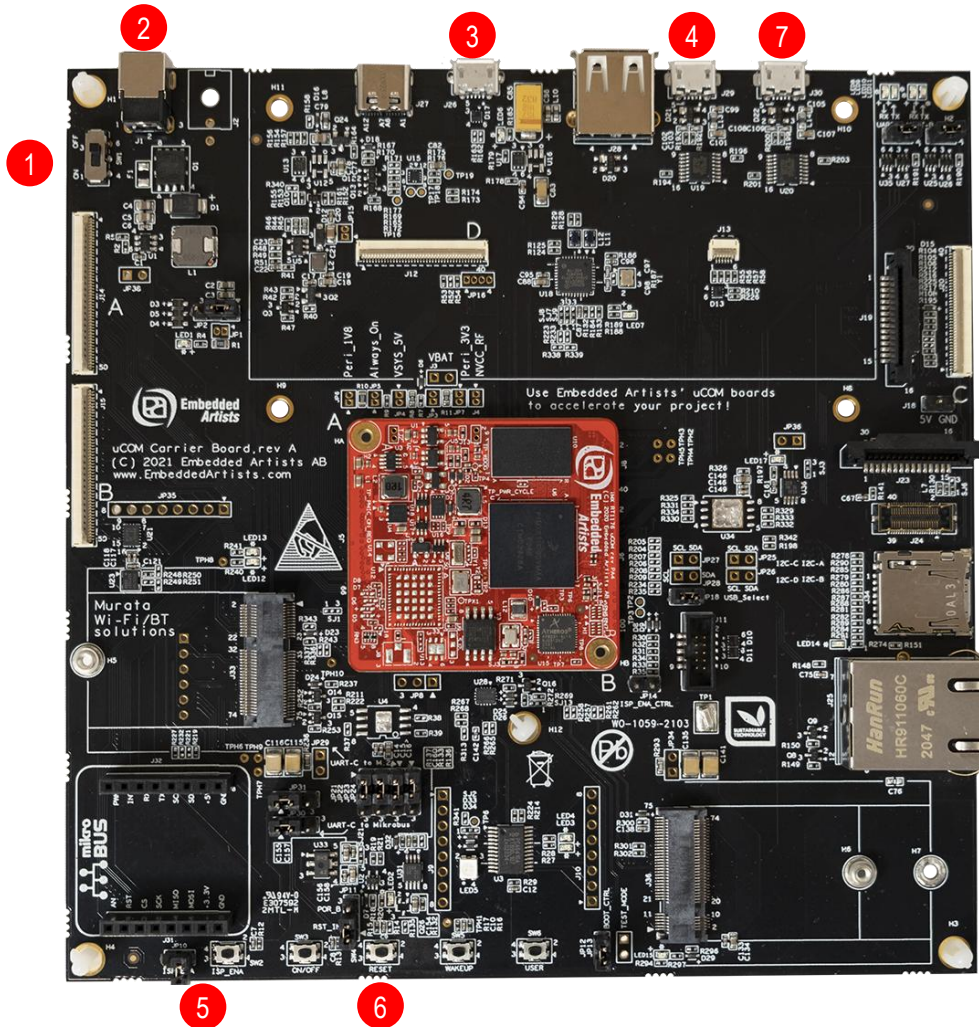

Figure 1 – iMX RT1176 Developer's Kit
- One *iMX RT1176 uCOM* board mounted on one *uCOM Carrier board*, see Figure 1 below.
Figure 1 below illustrates the top side of the *uCOM Carrier board*. Some key components, relevant to get started, have been marked in the picture.
Begin by connecting the micro-B USB connector to position 1) in Figure 1 above. Connect the other end of the USB cable to the PC.